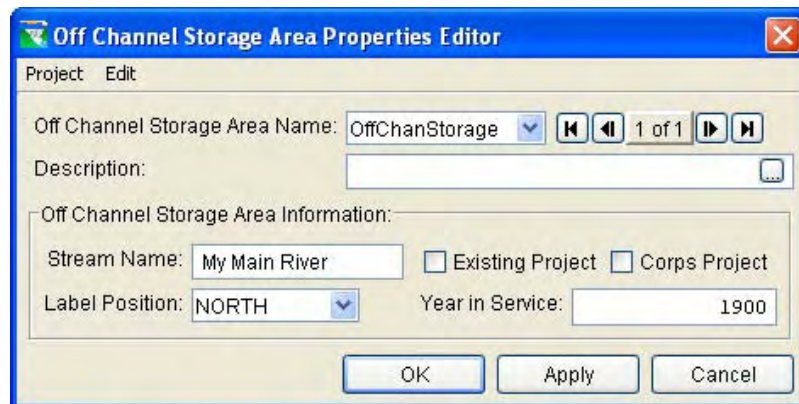

Figure 6.20 Off-Channel Storage Editor
2. Select **Edit Off-Channel Storage**. The **Off-Channel Storage Editor** opens, as shown in Figure 6.20.